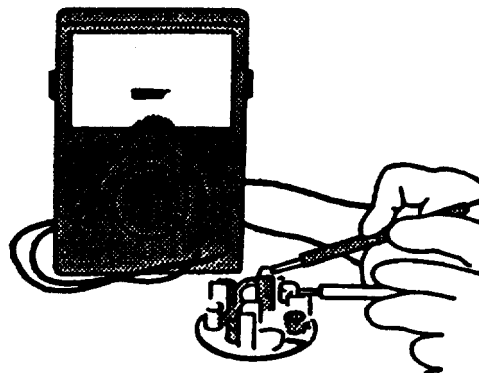

FIGURE 3-21. Checking Brush Holder
- d. Set multimeter for ohms and touch one probe to positive brush holder plate and other one to the holder plate, refer to FIGURE 3-21. There should be no continuity. If there is continuity, replace brush holder.